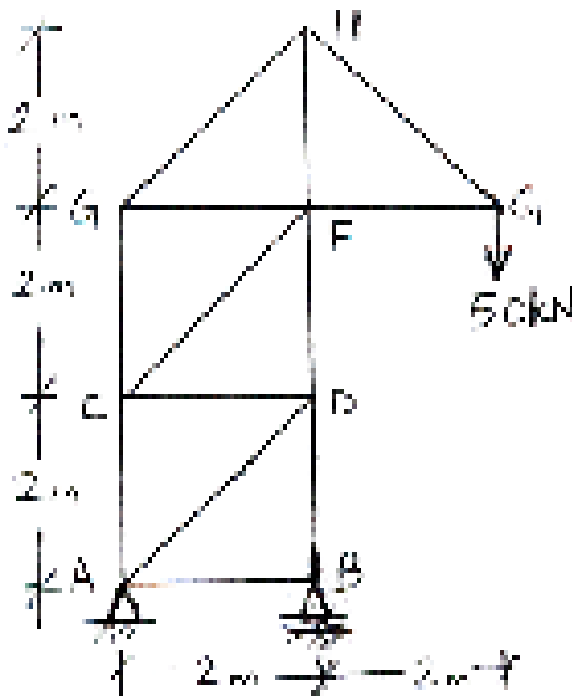

Fig. 11
6. a) Determine the vertical deflection of joint 'G', under the load, $W = 50 \text{ kN}$, for the truss shown in Fig. 11 using Castiglino's first theorem. Take $E = 200 \text{ GPa}$, area for all members = 1200 mm^2 .